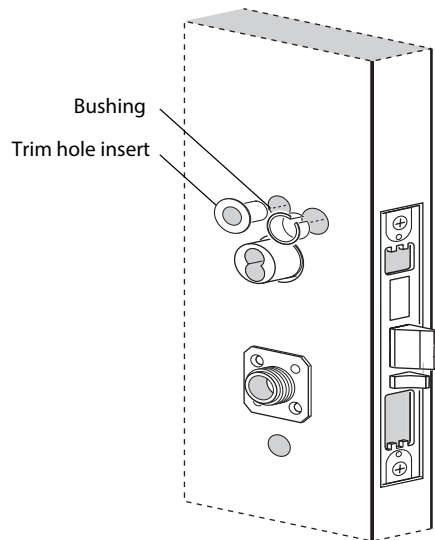

Figure 9 Installing the trim hole insert and bushing
- 1 On the outside of the door, insert the trim hole insert into the upper trim hole, as shown in Figure 9.